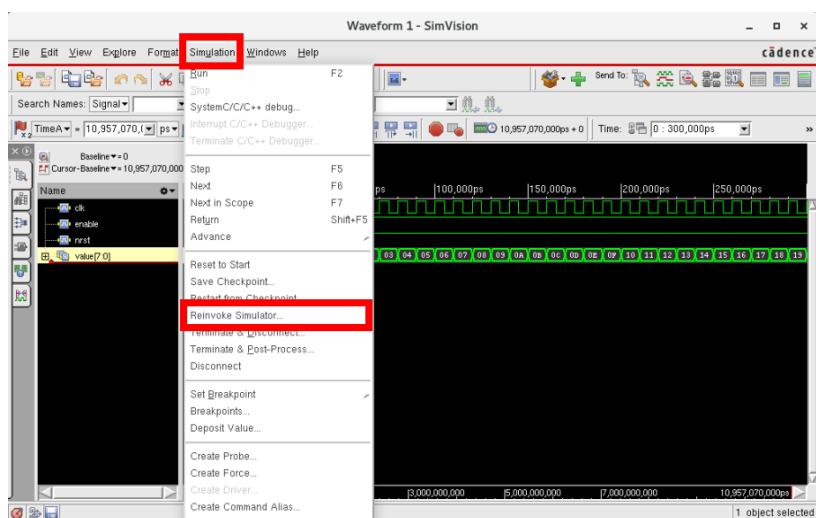

Figure 31: Waveform window: reinvoke simulator
11. If you have adapted the Verilog code and want to rerun the simulation, click on "simulation" and then on "Reinvoke Simulator..." as shown in Figure 31. You will get a message. Click 'Yes'. Press the play-button
11. Reinvoke the simulator as you did in Tutorial 4 (Figure 31). And start the simulation again by pressing the play button. Now you can see the analog input signal. You will see that the output signal is exactly the same as the input signal. This is no surprise because our analog circuit was nothing more than a wire connecting in- and output. Now you are ready to implement your own (more complex) analog and digital circuitry.